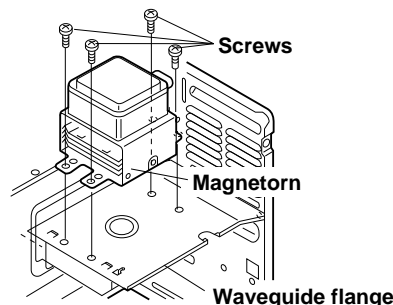

Figure C-1. Magnetron replacement
1. Re-install the magnetron to waveguide flange with the four (4) screws as shown in Figure C-1.
2. Insert the two (2) tabs of the chassis support to the oven cavity front plate and the back plate.
3. Re-install the chassis support to magnetron with the one (1) screw.